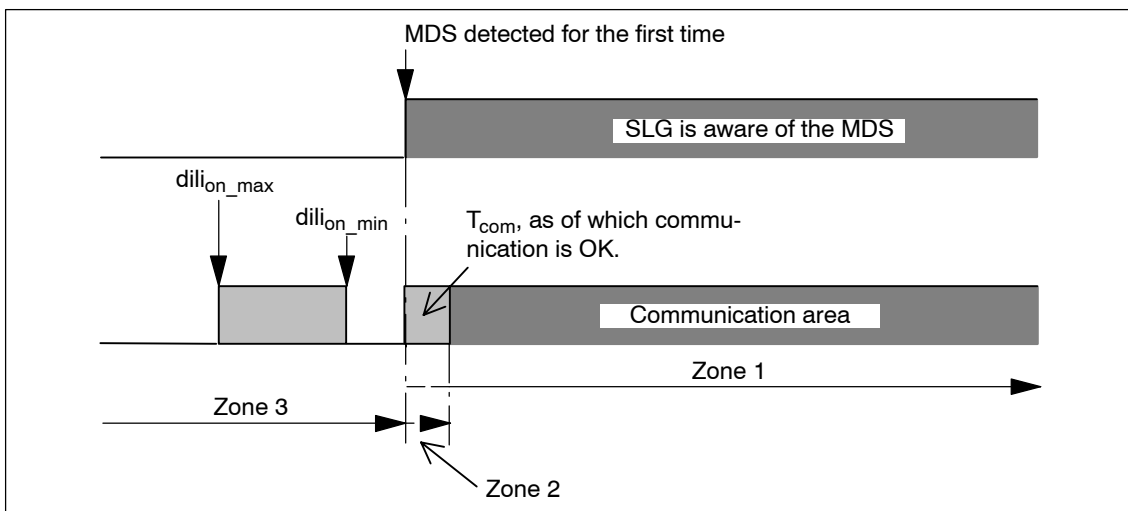

Figure 3-6 Entry into zone 1 (after the MDS crosses the range limit  $dilli_{on\_min}$ )
- c) The MDS does not enter the field of the SLG until it has crossed the range limit and is detected there for the first time. This means that when the MDS enters the SLG's field the distance is already less than the range limit. At this point the field does not reach the range limit (see Figure 3-6).